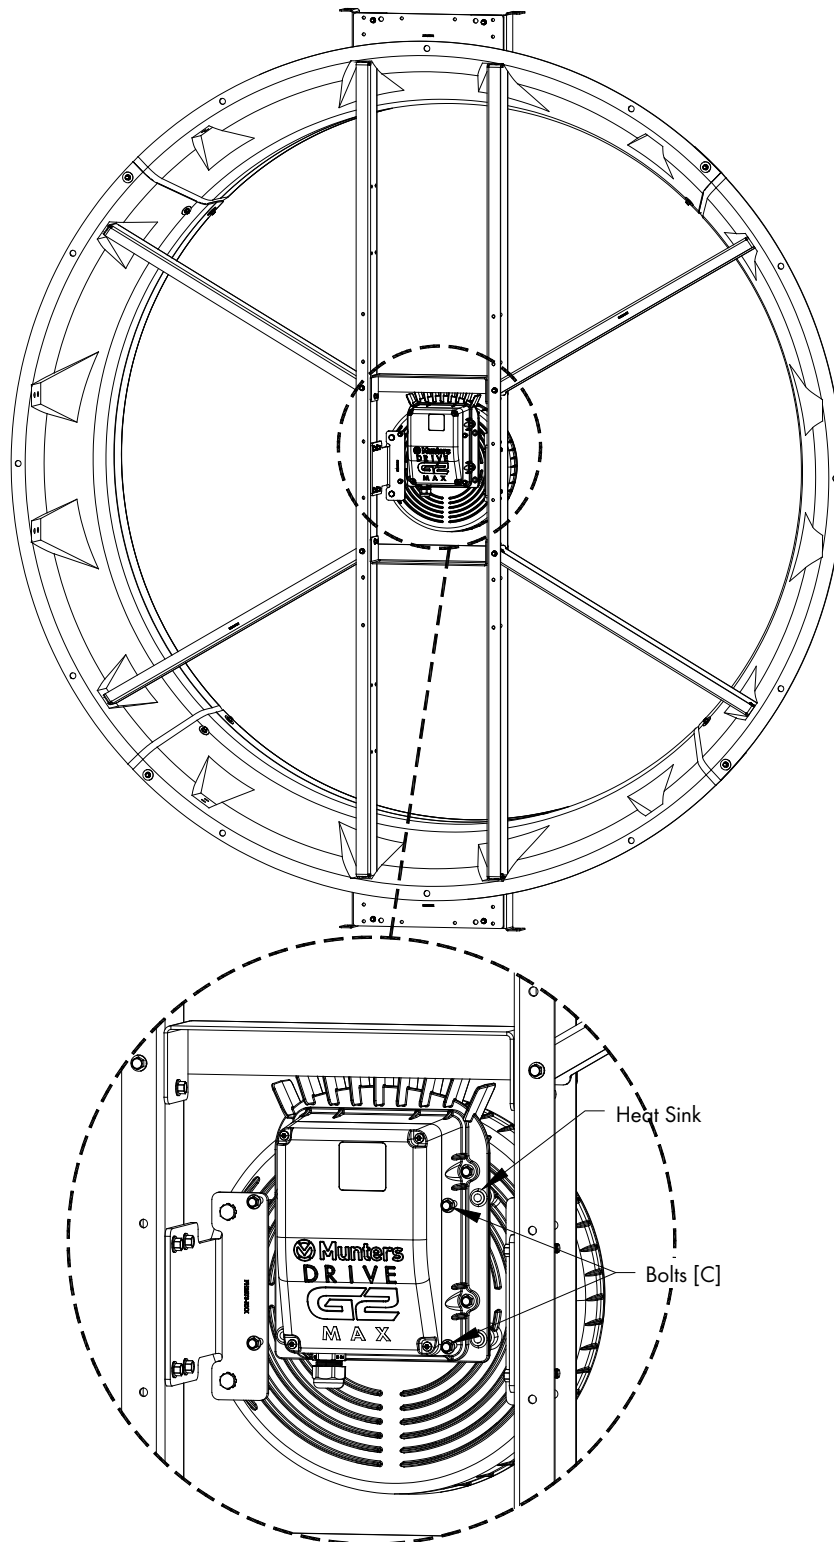

Figure 22
Align the Wiring Entrance and (4) mounting holes in the Heat Sink with the Wiring Entrance and (4) mounting holes in the back of the Munters Drive Motor and secure in place with (4) Bolts [C]. Tighten Bolts to 60 in-lbs. [6.8 N-m] of torque. See Figure 22.